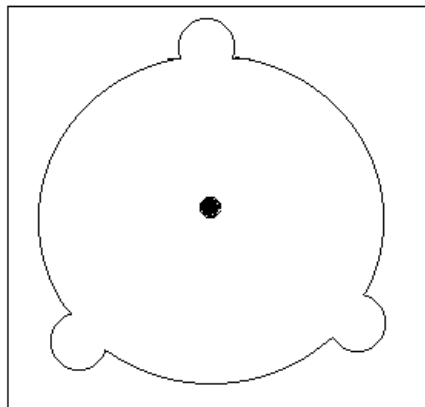

Figure 16
- 7.1) Mark the ceiling as per the diagram in figure 16.